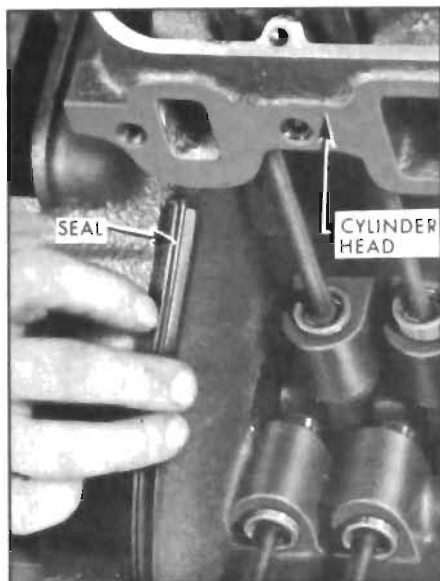

Figure 2-63—Installation of Intake Manifold Gasket Seal
14. Place new rubber manifold seal in position at front and rear rails of cylinder block. Be sure pointed ends of seal fit snugly against block and head. See Figure 2-63.